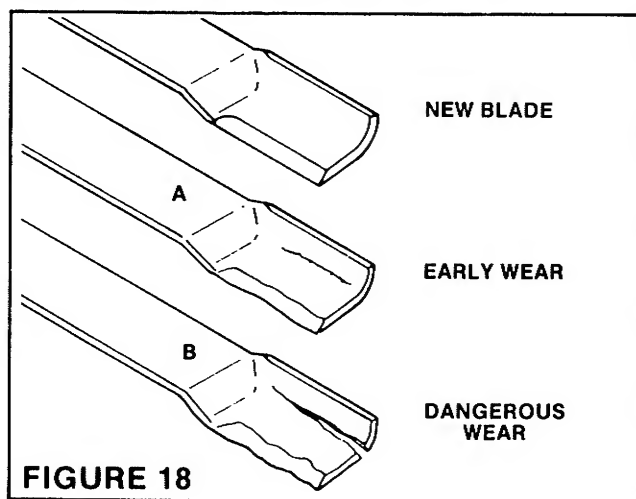

FIGURE 18
2. Abrasive soils and saw grass can cause blade wear at the base of the flukes (the bent-up tips of the blade). As displayed in Figure 18, wear causes cracks to develop as in "A" and to deepen as in "B." Replace cracked blade before wear gets to the dangerous "B" stage.